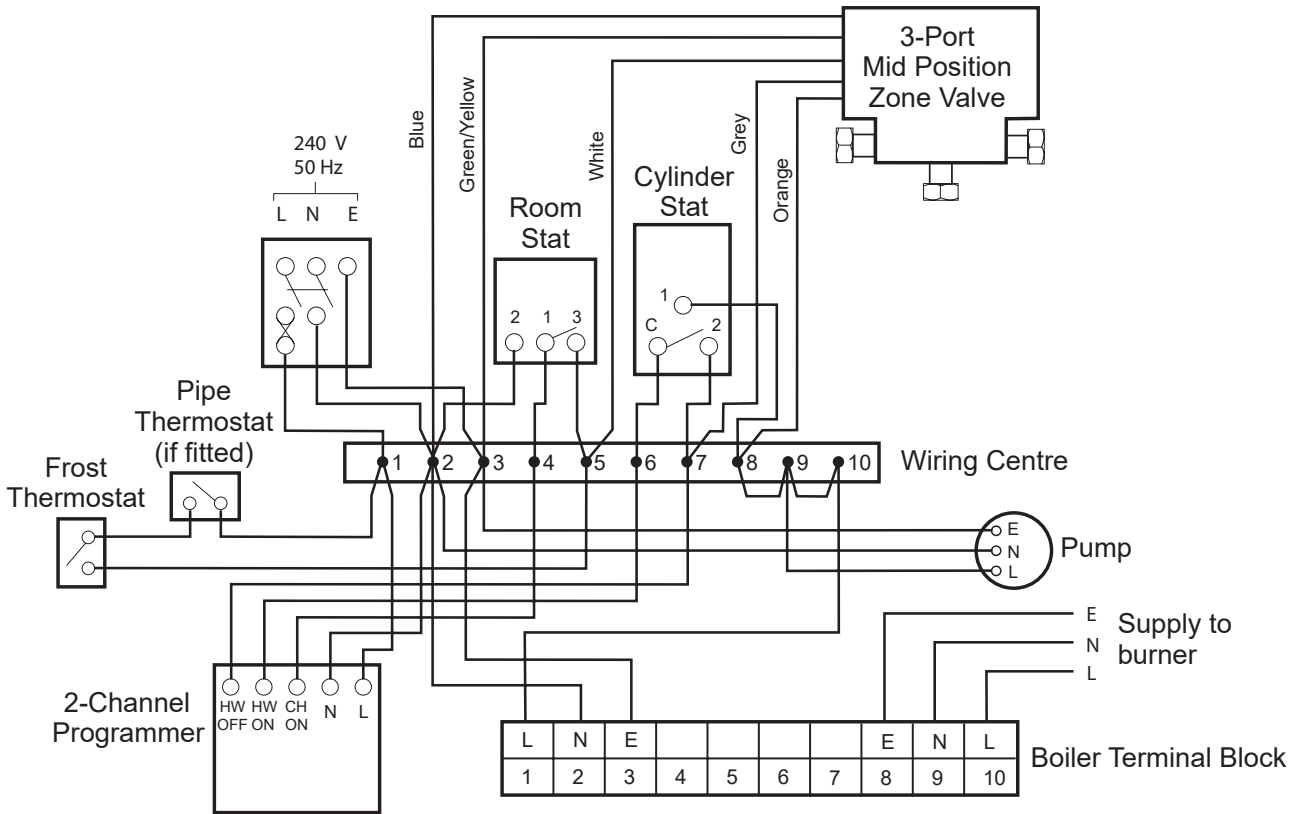

Figure 8-1: Utility models with 3-port valve control system
Refer to Figures 8-1 to 8-4 for typical control system wiring diagrams for all models.
Refer to Figures 8-1 to 8-4 for typical control system wiring diagrams.
3. Make the remaining required connections to the control panel, as detailed in Figures 8-1 to 8-4.
Refer to Figures 8-1 to 8-4 (as appropriate) for connection details.